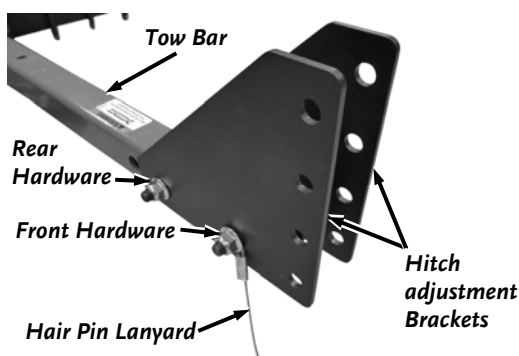

Figure 13
15. Install the two Hitch Adjustment Brackets with a 3/8-16 x 2-1/2" Bolt, Locknut and Hair Pin Lanyard at the forward location using two 9/16" Wrenches (**Figure 13**). Secure the rear location with a 3/8-16 x 2-1/2" Bolt and Locknut using two 9/16" Wrenches.